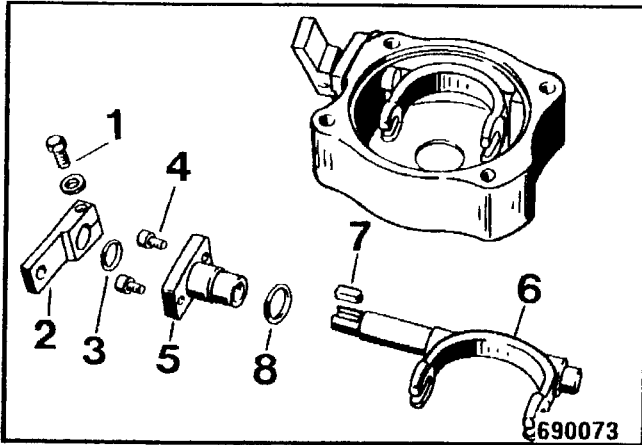

Fig. 15
- Unscrew the clamping screw 1 (Fig. 15) with the washer and pull the lever (2) off the control fork (6).
- Take the fitting key (7) off the control fork.
- Unscrew the two mounting screws (4).
- Pull the bearing sleeve (5) with two seal rings (3 and 8) out of the control housing cover.
- Take the control fork (6) out of the control housing cover.